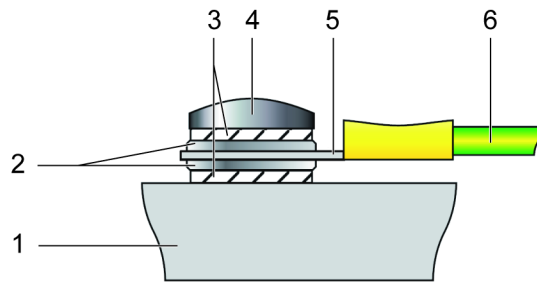

Figure 7: Mounting of the protective earth conductor (profile view)
3. Tighten the screw (together with the safety and flat washers) to affix the cable lug of the protective earth conductor to the protective earth connection (p. Figure 7)